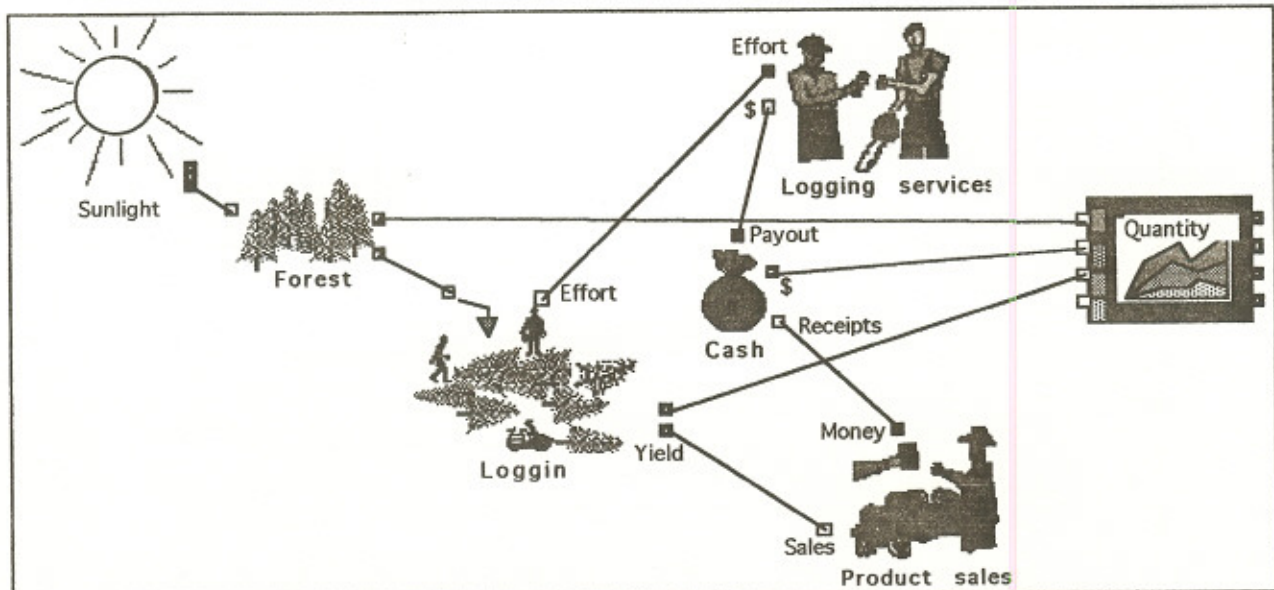

Figure 34. Model of logging system, with sunlight, forest, logging, product sales, cash, and logging services.
2. Arrange and connect them, starting with the **Logging** block to the right of the **Forest** block. Your screen should look like Figure 34.
Connect the economic blocks as shown in Figure 34. The Yield output of the Logging block connects to the input connector of Sales and to the second input of the Plotter. The output of Sales (the money flow) connects to the Receipts input of the Cash block and to the third input of the Plotter. The Payout output of the Cash block is connected to the input connector of Logging services, and the output connector of Logging services is connected to the Effort input of the Logging block.